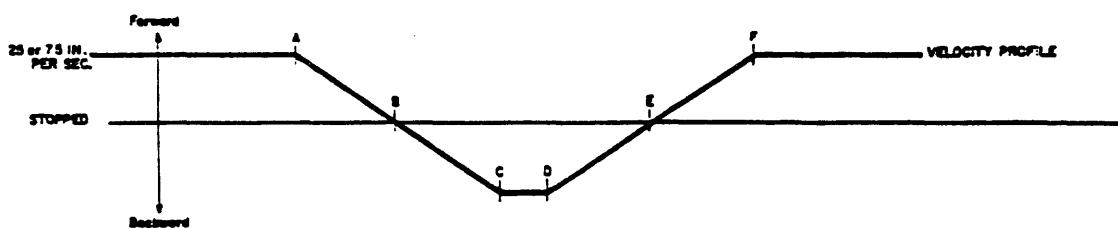
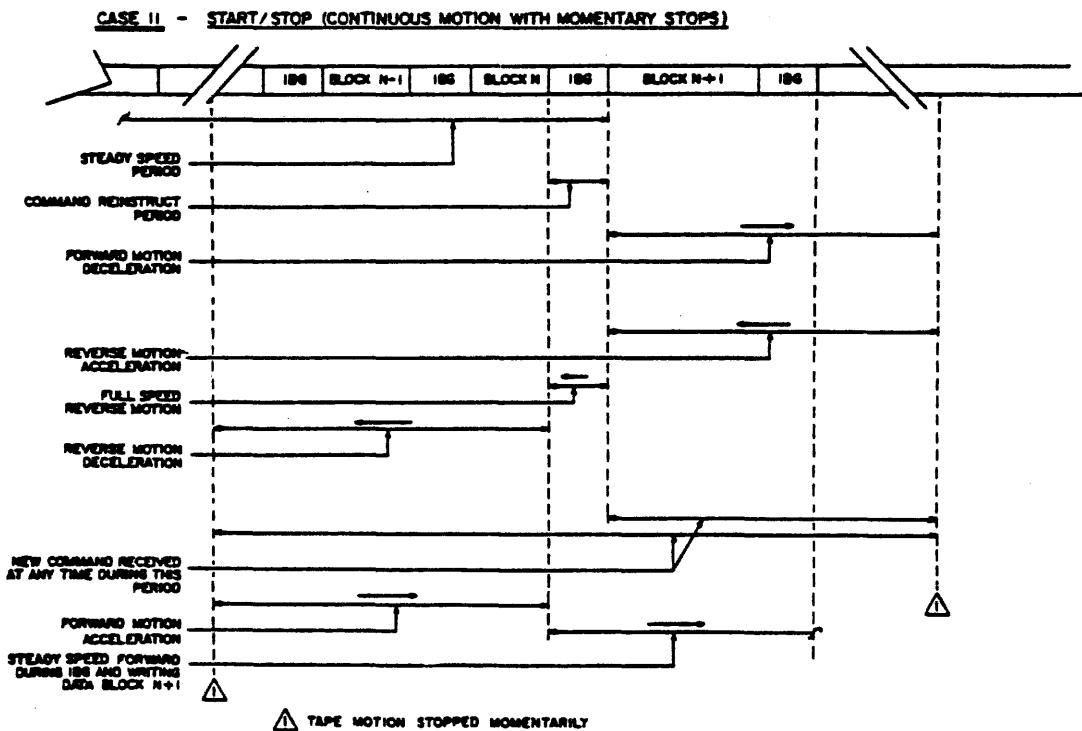

Figure 4-40. VELOCITY PROFILE - Case 2
Figure 4-41. TAPE MOTION CONTROL - Case 2
4.11.3.2 Case 2 (Momentary Stop) - Command Received During Repositioning Cycle. A command is not received during the Command Re[in]struct period, but rather is received during the Repositioning Cycle. The diagram illustrates, in the distance domain, the sequence of events with respect to the transport motion and the command transfer (see Figure 4-40).
The velocity profile (Figure 4-40) illustrates, in the time domain, tape velocity characteristics. Looking at the diagram of Figure 4-41, it can be seen that the tape stops only momentarily to change direction. The velocity profile identifies the time sequence of events. The correspondence between the time and distance portrayals in sequence is as follows: